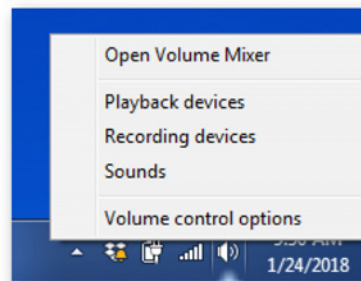

Figure 9.63: Windows® speaker context menu
- 2 Right-click to open the context menu (see Figure 9.63).